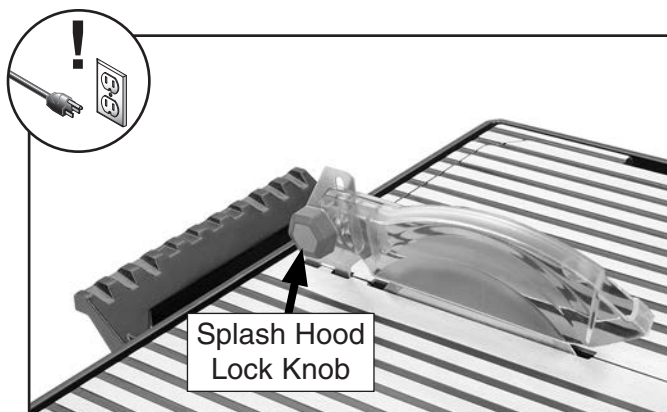

Figure 25. Splash hood lock knob location.
5. Loosen splash hood lock knob and adjust hood to height of tile (see **Figure 25**). Hood should be as close to tile as possible without touching.